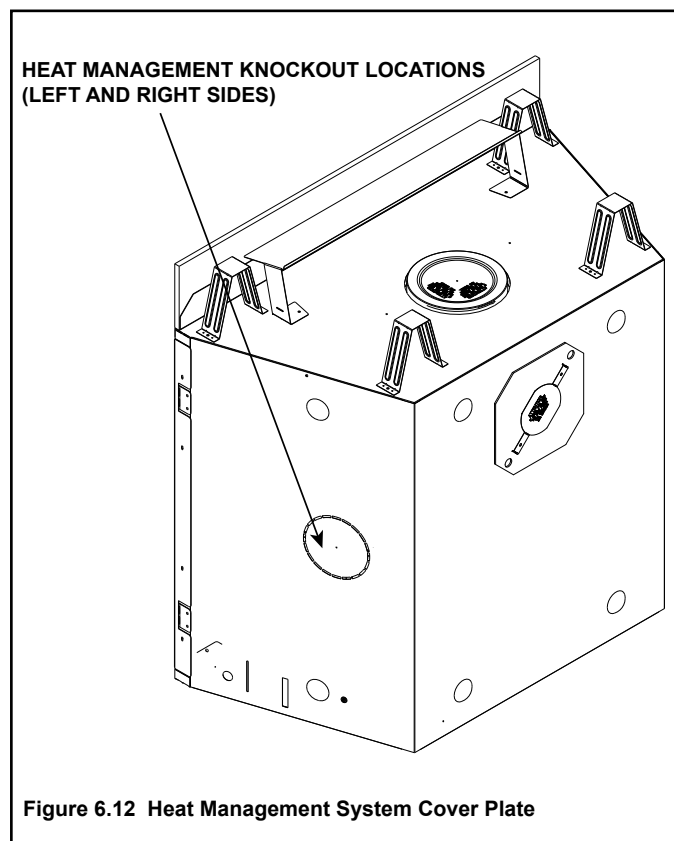

Figure 6.12 Heat Management System Cover Plate
- Locate the heat management ports on the left and right sides of the appliance. Either one or two Heat-Zone® -Gas Kits may be installed. Remove the knockout from the fireplace and discard it. See Figure 6.12.